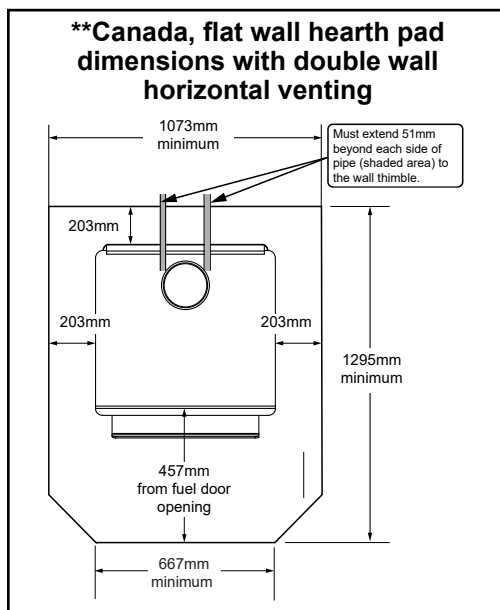

Figure 9.2 - **These dimensions will vary depending installation.
In Canada, similar floor protection must be provided 18 inches (457mm) in front and 8 inches (203mm) from the sides and rear of the appliance unless the hearth pad is placed against the wall (**Figure 9.2**). Then the clearance may be reduced using double wall pipe and the Clearance to Combustibles table listed in section 3C.
***Exception:** Non-combustible floor protector must extend beneath the flue pipe when installed with horizontal venting and extend 2 inches (51mm) beyond each side (**See Figure 9.2**).